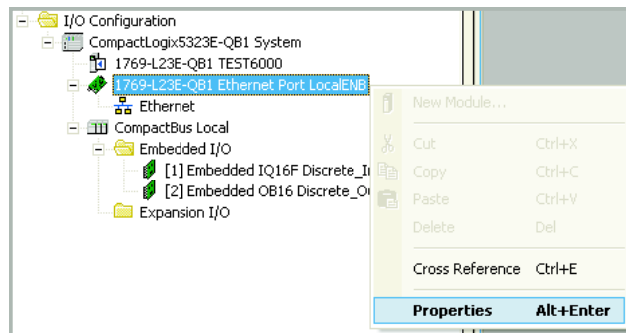

Figure 82 Properties
4. When the download is complete, right click on the relevant EtherNet port in the left pane 'tree', and select 'Properties' (Figure 82).